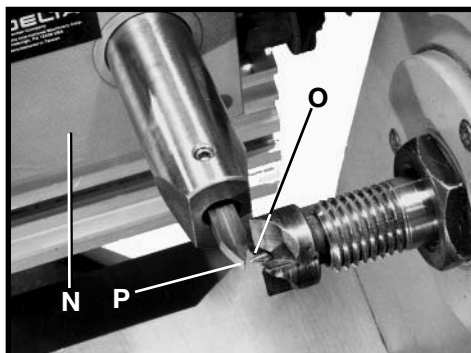

Fig. 51
8. Move carriage (N) Fig. 51, of duplicator toward the headstock until point of cutting tool (P) is in the same plane with point (O) of headstock center.